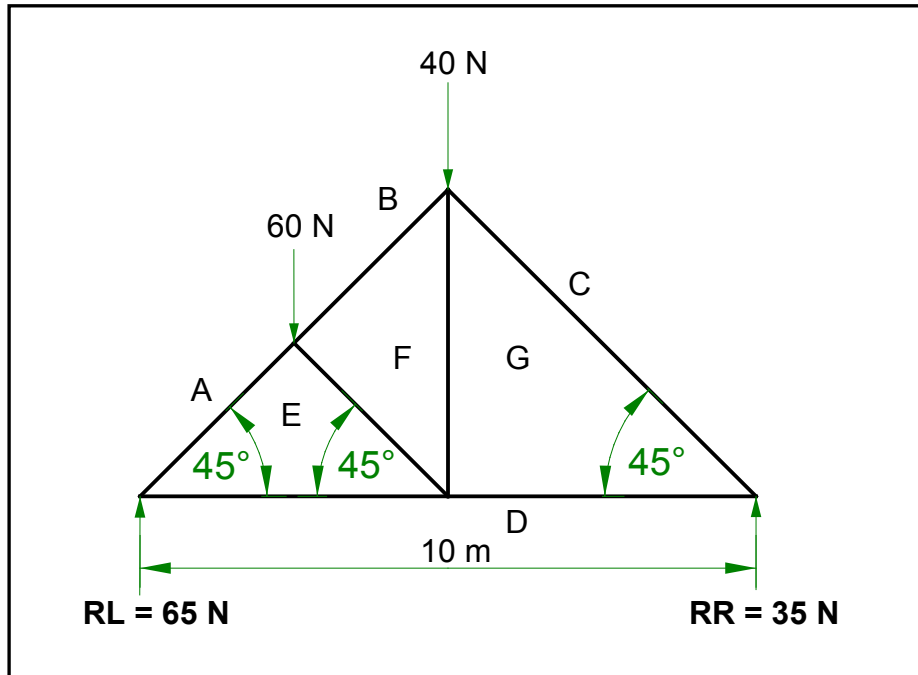

FIGURE 5.2
5.2 FIGURE 5.2 shows the space diagram of a truss with two point loads and a span of 10 metres.